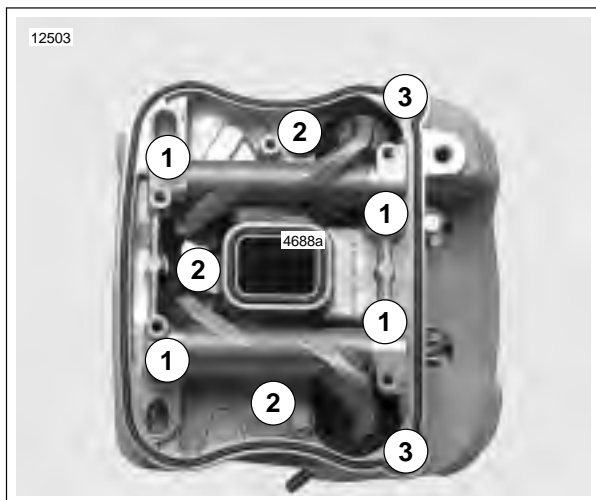

Figure 3-84. Lower Rocker Box Fasteners
9. See Figure 3-84. Install **new** gaskets. Place lower rocker box assembly (with rocker arms and shafts) into position. Place push rods in rocker arm sockets.
10. See Figure 3-84. Install hardware attaching lower rocker cover to cylinder head in the following order. After loosely installing all fasteners, use a cross pattern on the four large bolts that fasten the lower rocker box to head to tighten and then torque to specifications. This will bleed the tappets. Finish tightening remaining fasteners. Fastener sequences, sizes and torque specifications are listed in Table 3-21.
- a. Tighten bolts (1) to 18-22 ft-lbs (24-30 Nm).
- b. Tighten bolts (3) to 135-155 **in-lbs** (15-17.5 Nm).
- c. Tighten screws (2) to 135-155 **in-lbs** (15-17.5 Nm).